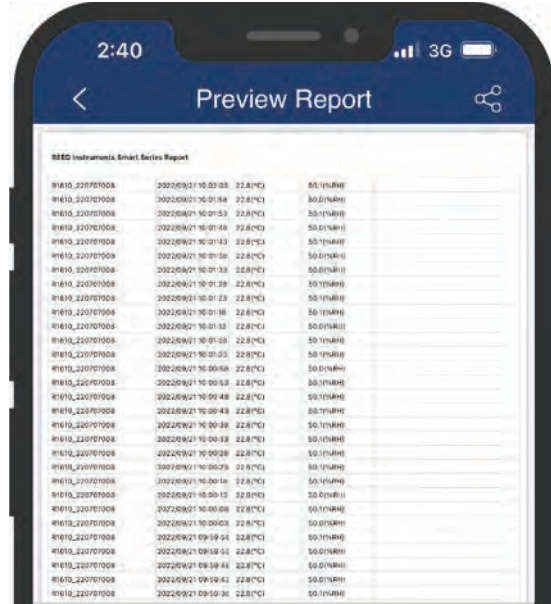

Figure 22
7. When a PDF File export format is selected, the App will generate a "Preview Report" of the recorded data which can be exported/shared or saved to your device. (Figure 22)